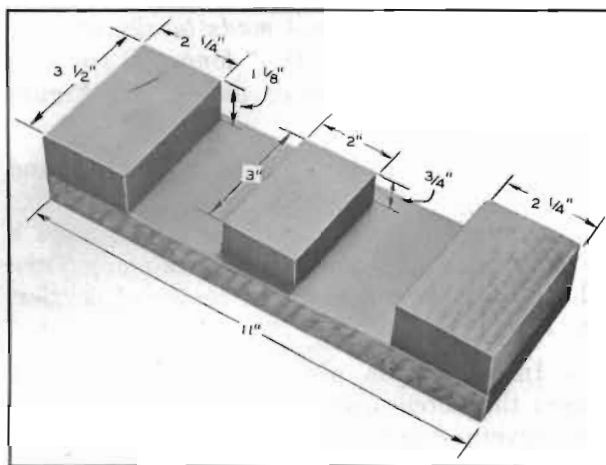

Figure 5-54—Two Position Stator Assembling Fixture
2. Place the rear carrier and piston on center block of fixture to hold the piston in position. See suggested fixture shown in Figure 5-54.